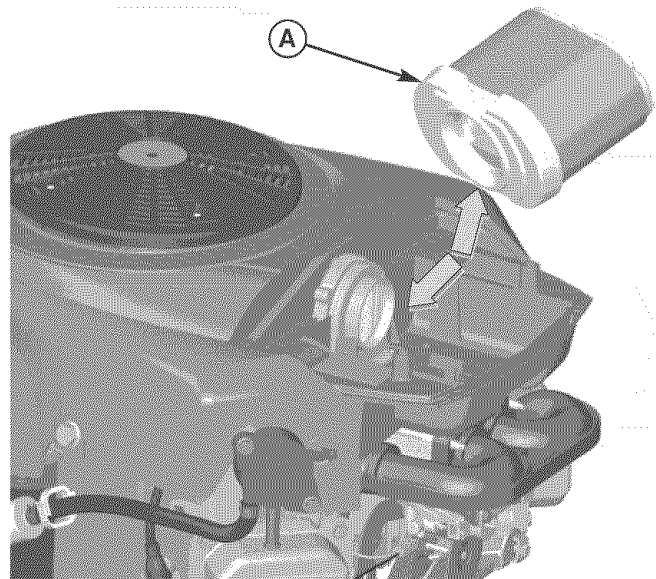

Figure 34. Air Filter Installation
4. Replace the cartridge by aligning the hole of the cartridge with the air vent (A, Figure 34).